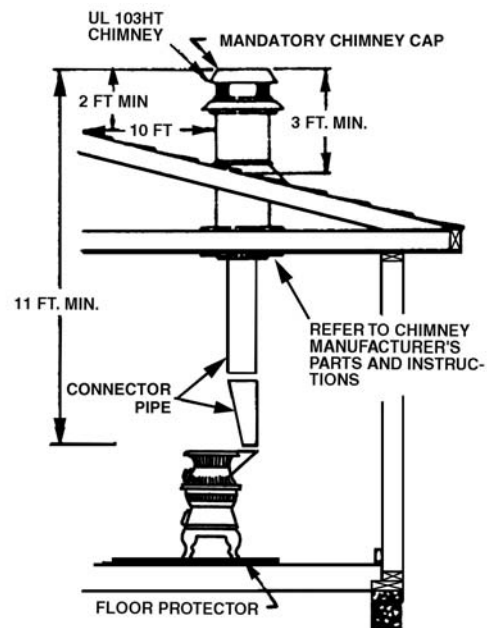

Fig. 10 - Chimney Construction Through Attic Space
**DRAFT: Your stove itself does not create draft. Draft is provided by the chimney.** To achieve proper draft your chimney must meet the three minimum height requirements detailed in figures 10–13. A minimum of 0.05 w.c. (measured in water column) is required for proper drafting to prevent back puffing, smoke spillage, and to maximize performance. Draft must not exceed 0.06 w.c. or unsafe operating conditions may occur. A barometric draft regulator must be installed if draft exceeds 0.06 w.c. (Gauges to measure draft are readily available at stove stores and are economical to rent or purchase.)